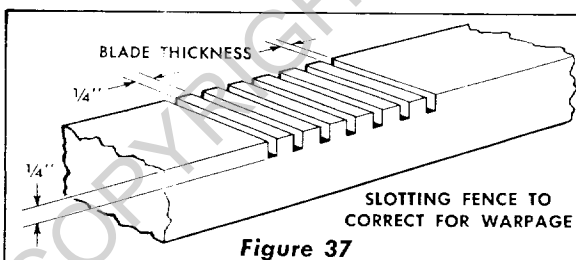

Figure 37
5. In the event that the fence is warped and cannot be straightened by tightening the table clamps proceed as follows: Remove the fence and replace with a temporary fence made from a straight piece of scrap lumber. Proceed to cut slots in the original fence where the gap between the fence and front table was determined to be the greatest. See Figure 37 for slotting.